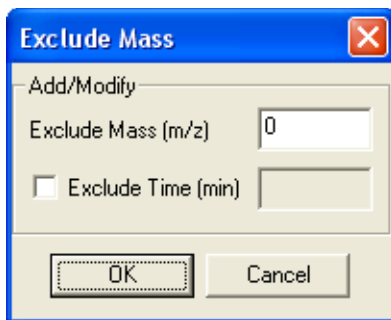

Figure 5-22 Exclude Mass Dialog Box
1. On the Survey Scan Function Editor's Exclude page, click Add to open the Exclude Mass dialog box (Figure 5-22).